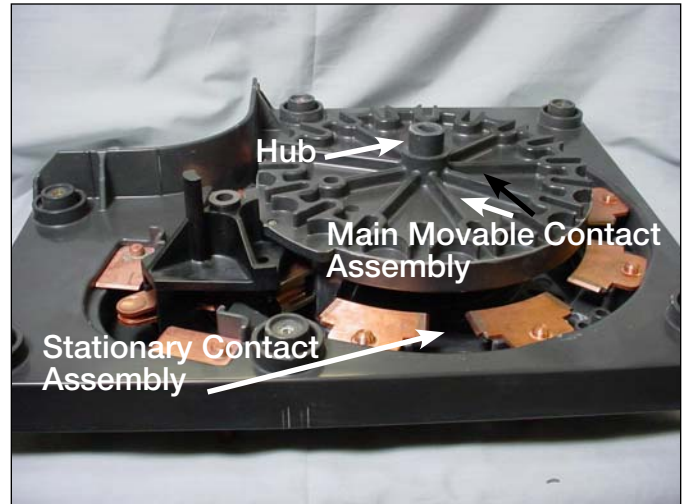

Figure 21.
- Align the center hub of the main movable contact assembly with the center hole in the tap changer drive assembly. See Figures 21 & 22.